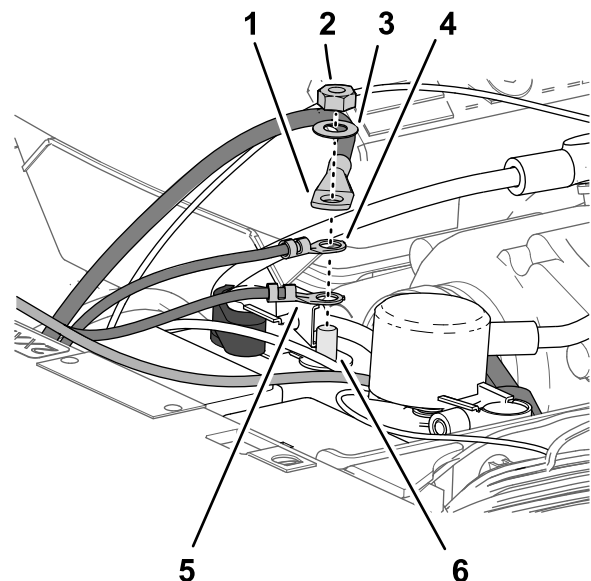

Figure 211
5. Assemble the following wire and cable terminals onto the threaded post of the negative battery terminal (Figure 211) in the following order: